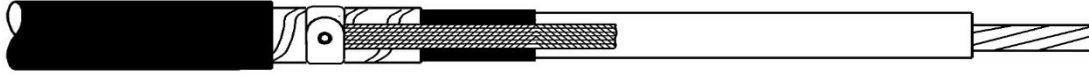

Figure 18
5. If necessary, one to two laps of vinyl tape (Std. Item T2W1) may be placed over the spring to hold it in place. Refer to Figure 18.